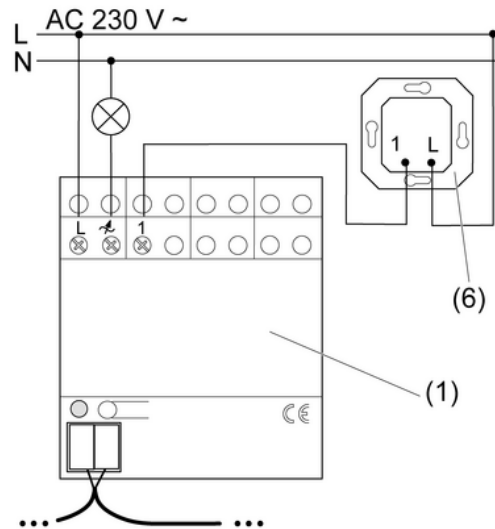
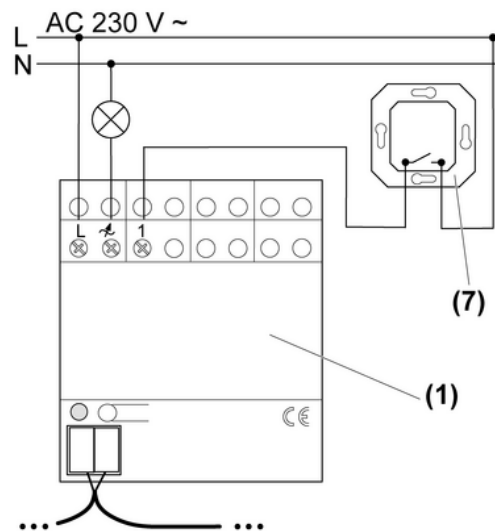

Figure 3: Connecting a 2-wire extension (6)
Figure 4: Connecting a non-illuminated installation button (7)
- Mount dimmer (1) on DIN rail.
- Connect dimmer, load and if necessary extension in accordance with the appropriate connection diagram (figure 3) or (figure 4).